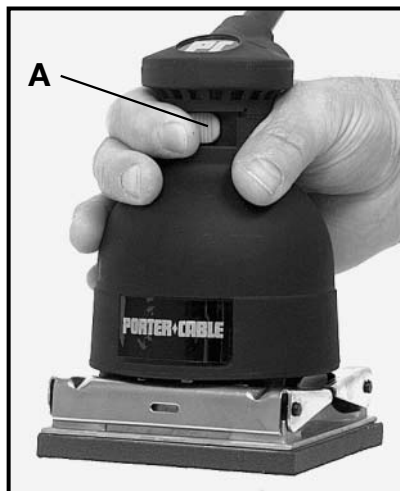

Fig. 3
⚠ WARNING Make sure switch (A), Fig. 3, is in “OFF” position.
3. While holding sander firmly and off of work surface, slide switch (A), Fig. 3, to the “ON” position.
5. When you are finished sanding, lift sander up off work and slide switch (A), Fig. 3, to the “OFF” position to stop sander.
The Porter-Cable Finishing Sander has been designed for one-hand operation (Fig. 3). Because it is light in weight, vibration-free and perfectly balanced, the sander can be easily guided over the work surface with one hand. The normal weight of the machine is sufficient for efficient sanding. Do not put additional pressure on the machine. This would only slow down the speed of the pad, reducing the sanding efficiency and put an additional burden on the motor. In addition, it might cause the sander to jump on the work. Let the sander do the work.